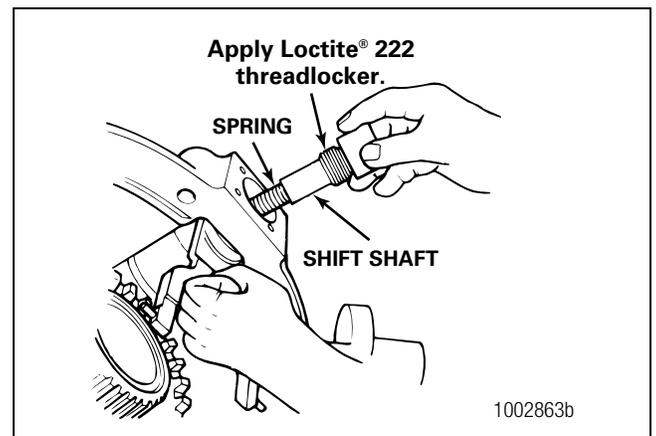

Figure 6.28
6. Hold the shift fork in position. Install the shift shaft spring into the shift shaft opening in the carrier, through the shift fork bore and into the bore for the shift shaft spring. Figure 6.28.